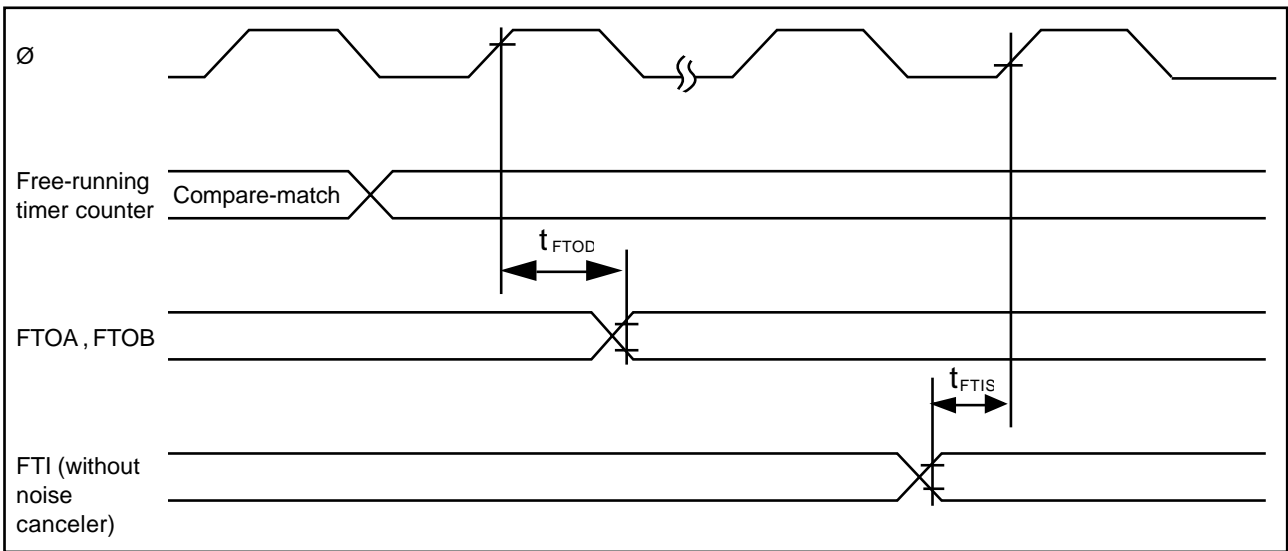

Figure 15-11. Free-Running Timer Input/Output Timing
| FRT Timer output delay time | tFTOD | – | 150 | – | 100 | – | 100 | – | 100 | ns | Fig. 15-11 |
| Timer input setup time | tFTIS | 80 | – | 50 | – | 50 | – | 50 | – | ns | Fig. 15-11 |
- 15.3.3 16-Bit Free-Running Timer Timing Figures 15-11 to 15-12